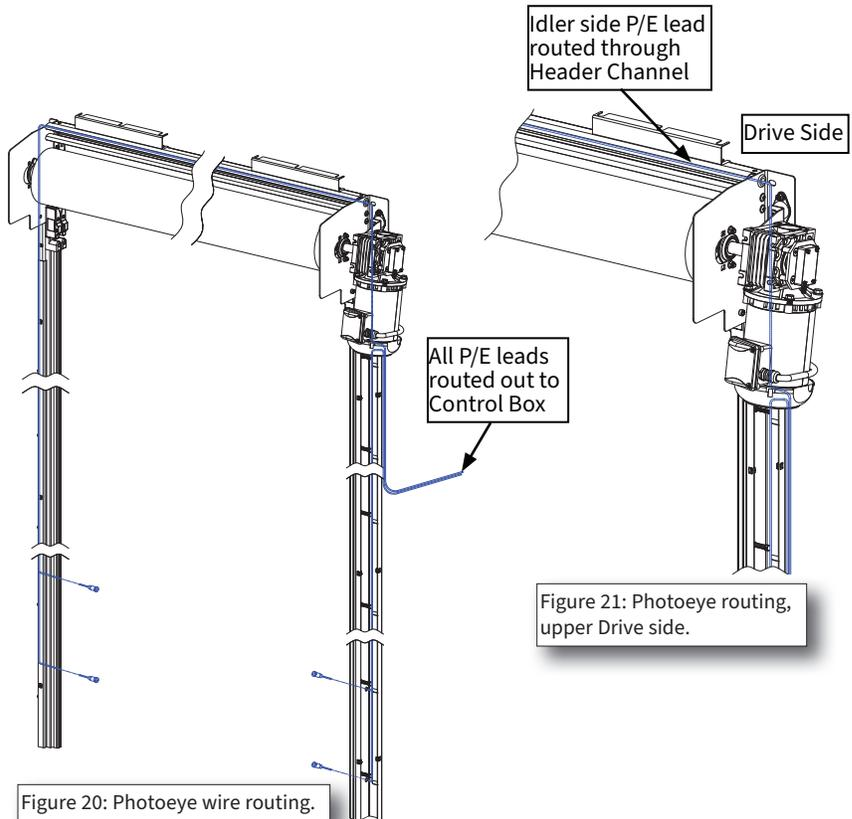

Figure 21: Photoeye routing, upper Drive side.
3. On Drive side, route P/E leads up through Face Frame channel, over the top of the Face Frame, and down the outside of drive side Face Frame to Control Box (Figure 21) (Drive & components hidden for clarity).